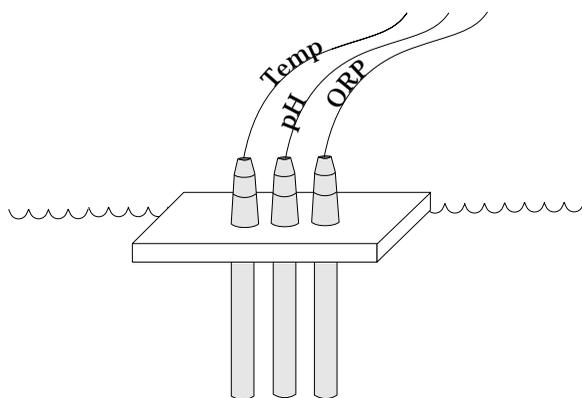

Figure 2.3 • In-Filter Location Using Float
- In-Filter Location Using a Float (Figure 2.3).
In-Filter Location Using a Float—The float installation shown in Figure 2.3 keeps probes from being submerged (or drying out), and is economical to construct.
To construct a probe float, punch a hole (slightly smaller than the probe diameter) through a small piece of styrofoam. Be sure the probes are no further than 6 inches apart. Insert the probes into the float, as shown in Figure 2.3.